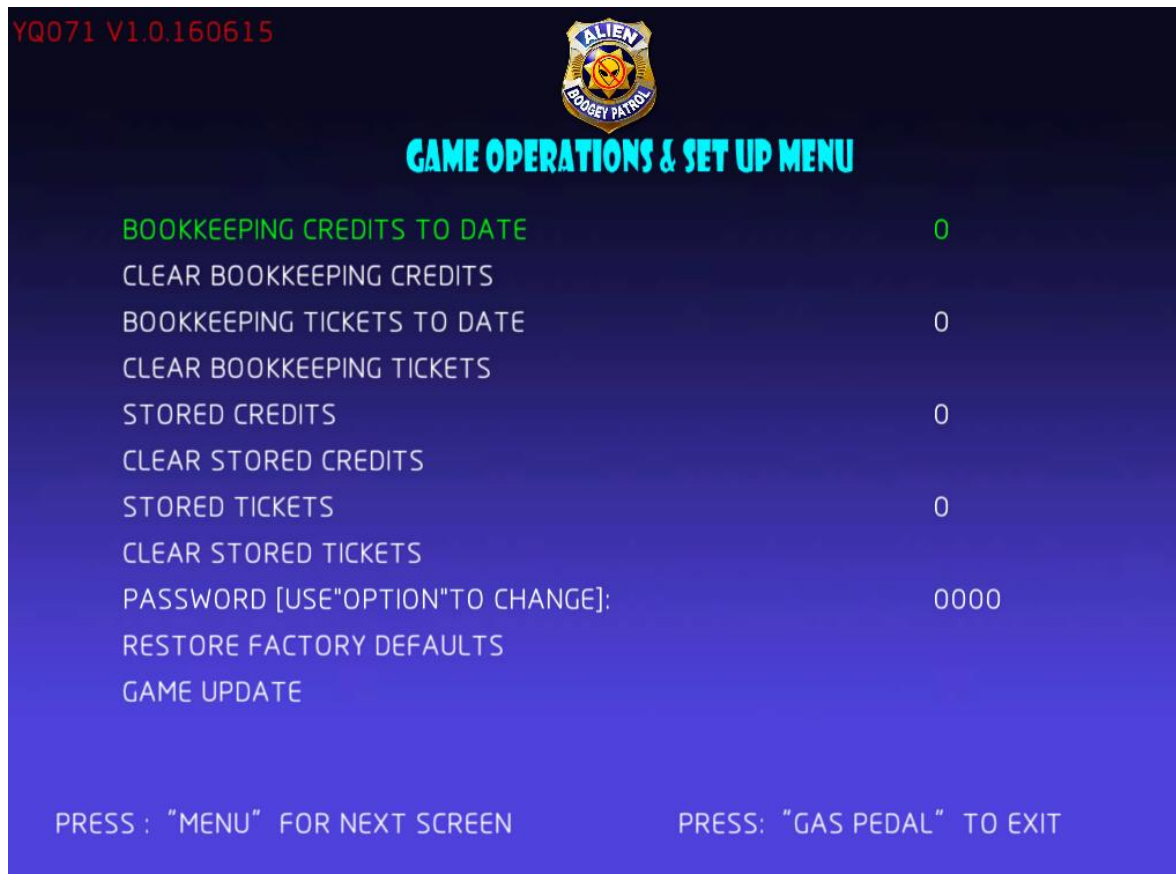

Figure 2
- ⬆ After enter password, press “MENU”, move to ENTER, then press; “OPTION” to enter into next page (see figure 2)